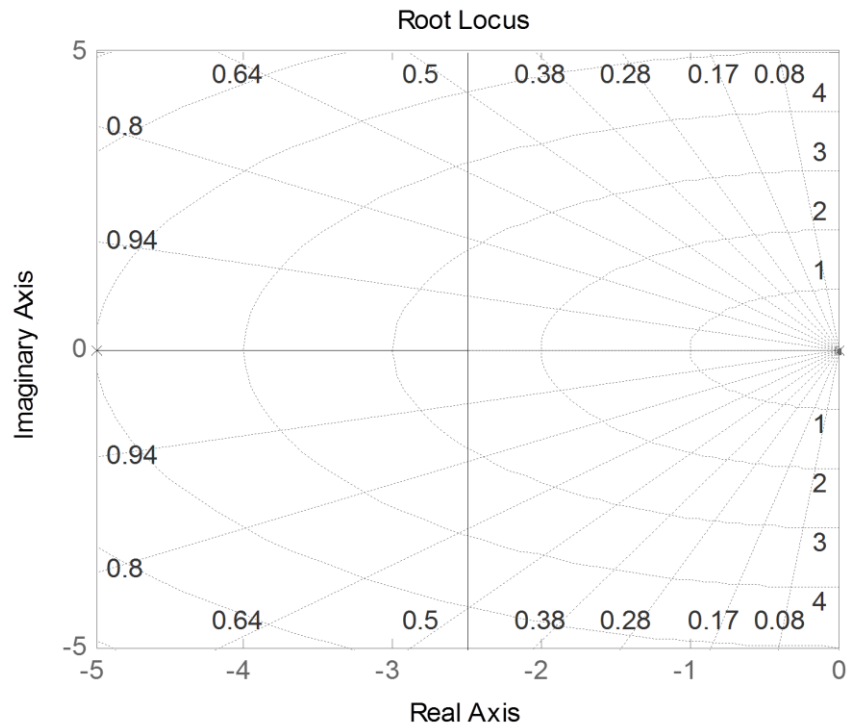

Figure-4
- 04 For the root loci shown in figure-4 determine the following. [16]